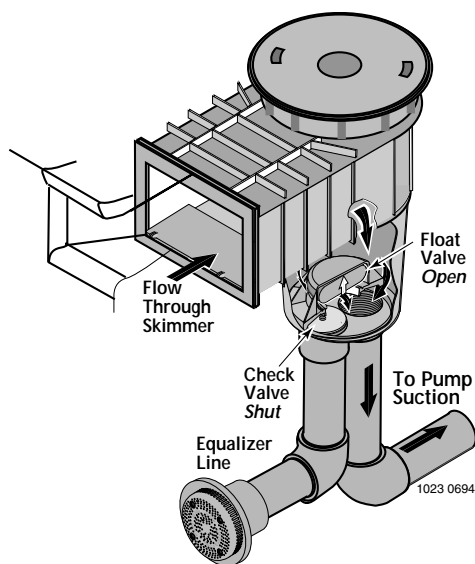

Figure 1: Normal operation: float valve open, check valve shut.
a. **Skimmers without float:** Adjust shut-off valves in pump suction line from skimmer and pool main drain line. (See Figure 1, below.)